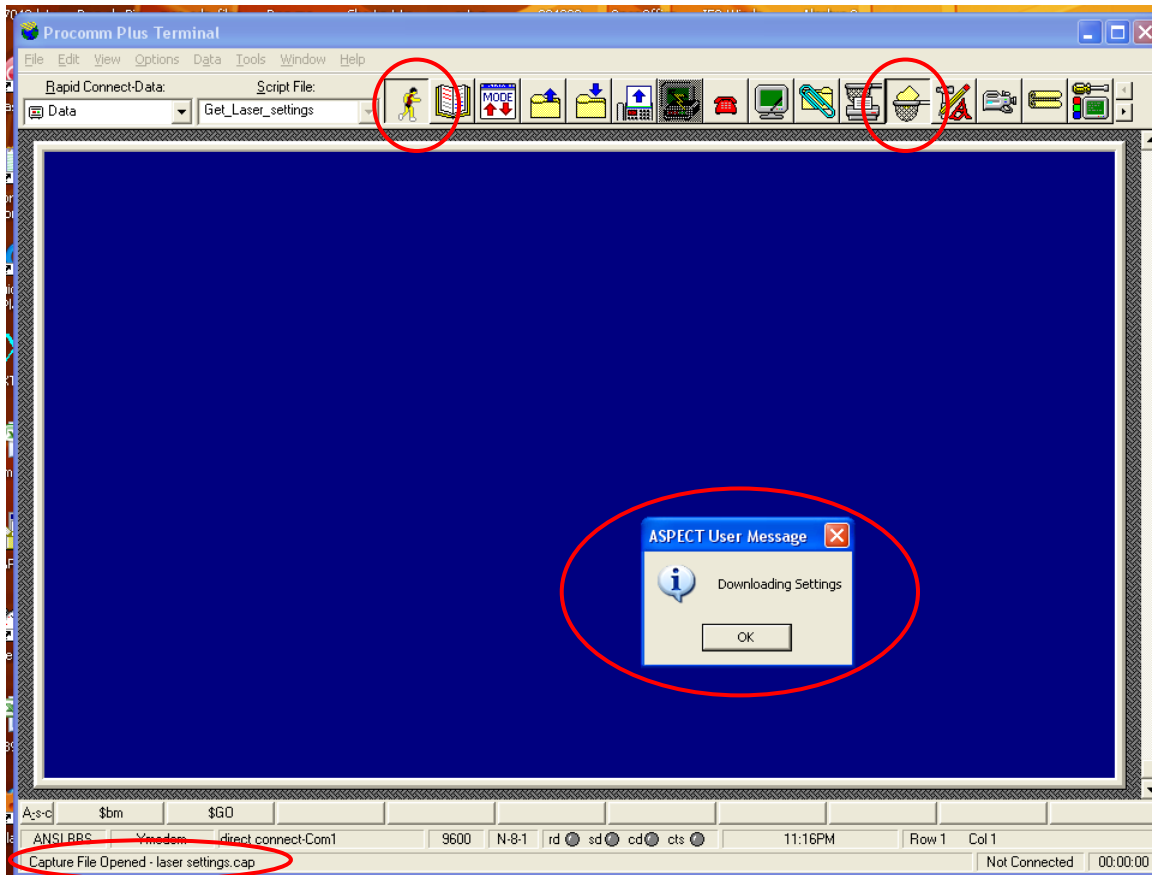

Figure 16
5. After pressing the **STOP/STOP SCRIPT** button the “running man” will be indented, as will the **CAPTURE** button. At the lower left of the screen, the Capture file status will change from closed to laser setting.cap (fig.16).